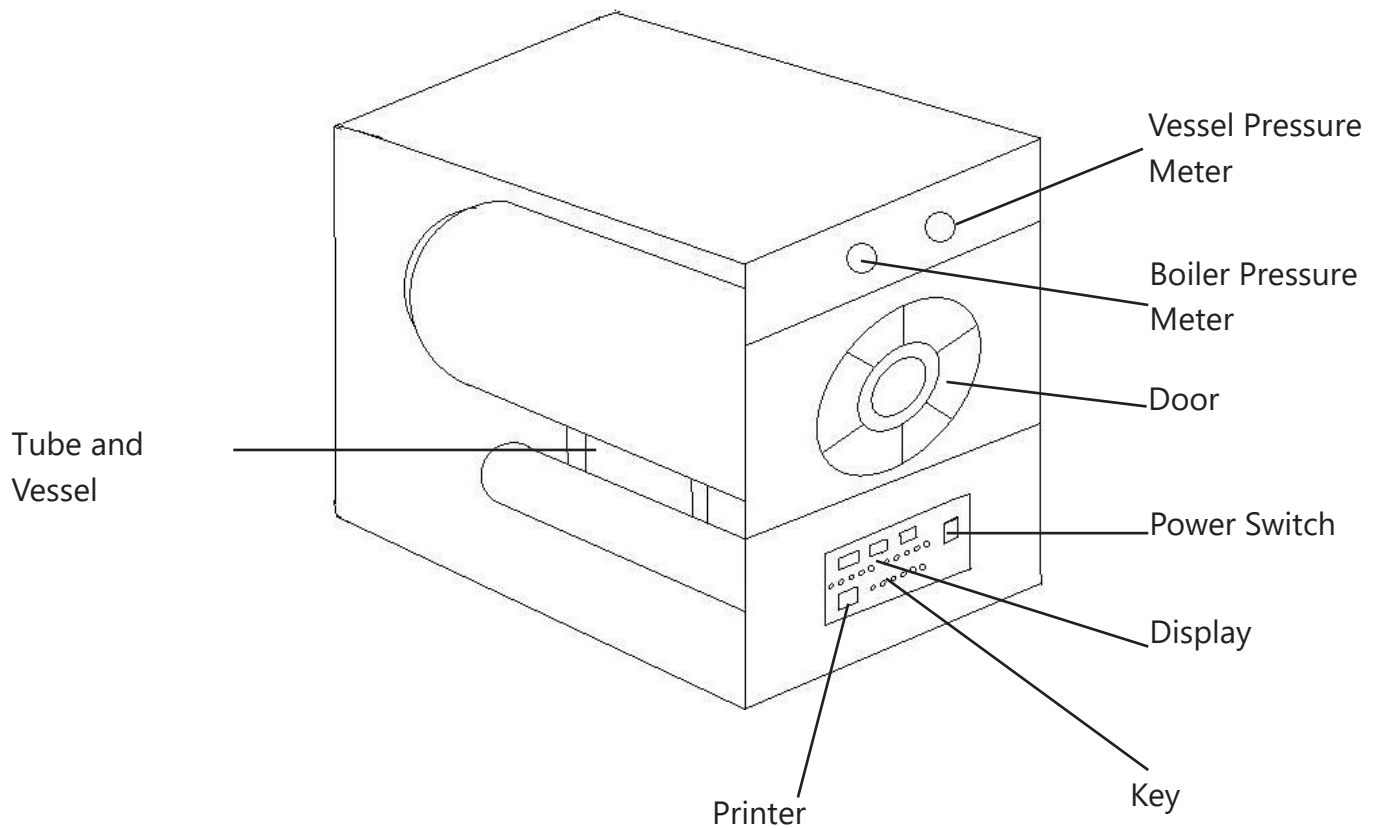

FIG. 1
a) See Fig. 1 for outline structure of Autoclave